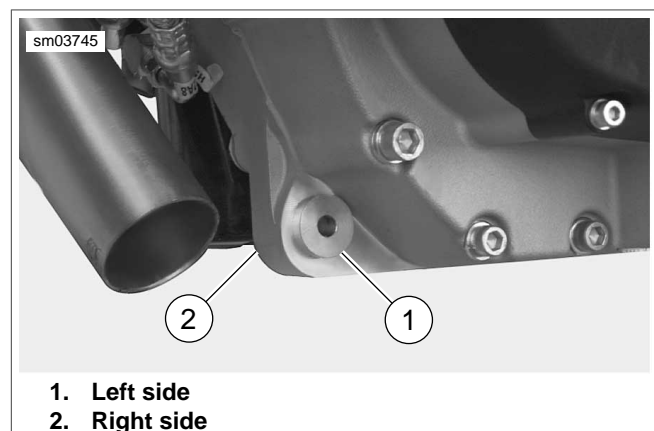

Figure 3-27. Front Exhaust Mount Bushings (2 piece)
- d. See Figure 3-27. Install aluminum bushings in front exhaust mount.